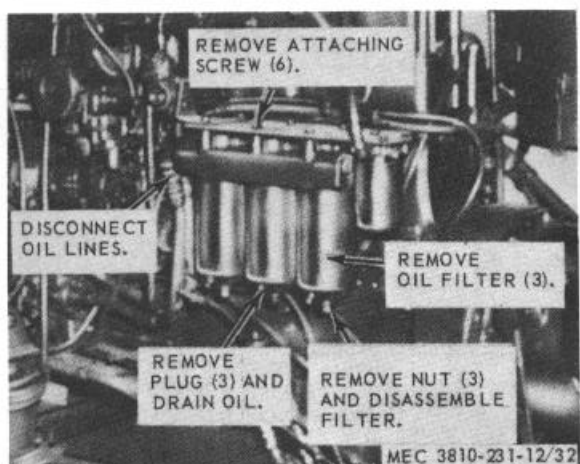

Figure 32. Oil filter, removal and installation.
a. Removal. Remove oil filter as instructed in figure 32.
- (1) Clean all parts in an approved cleaning solvent and dry thoroughly.
- (2) Inspect for cracks, breaks or other damage
- (3) Repair or replace damaged or defective parts.
c. *Installation.* Install oil filter as instructed in figure 32.